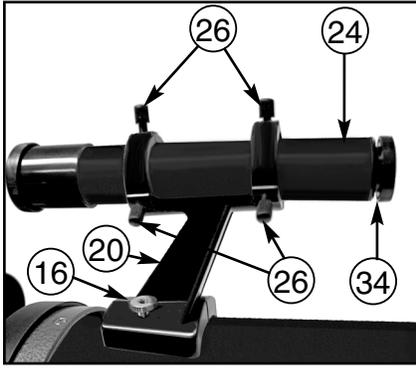

Fig. 1a: Model 114 EQB-1: Viewfinder assembly.
Your Meade 114 EQ-DS comes to you packaged almost entirely pre-assembled. (References in this section—e.g. (6)—are to **Fig. 1a - 1e** unless otherwise specified.)
The wide field of view provided by the 5 x 24mm viewfinder permits easy object sighting prior to observation in the higher-power main telescope. The 5 x 24 Viewfinder (**24, Fig. 1a**) and viewfinder bracket (**20, Fig. 1a**) attaches to the telescope tube assembly as described above (see **Fig. 1a**). In order for the viewfinder to be functional, however, it must be aligned to the main telescope, so that both the viewfinder and main telescope point at the same position in the sky. With this simple alignment performed, finding objects is greatly facilitated, since you will first locate an object in the wide-field viewfinder, then you will look in the eyepiece of the main telescope for a detailed view. To align the viewfinder follow these steps:
- With the front of the viewfinder already centered in the front bracket ring, look through the viewfinder and loosen or tighten, as appropriate, one or more of the rear viewfinder bracket ring thumbscrews (**26, Fig. 1a**) until the viewfinder's crosshairs are likewise centered on the object previously centered in the main telescope.